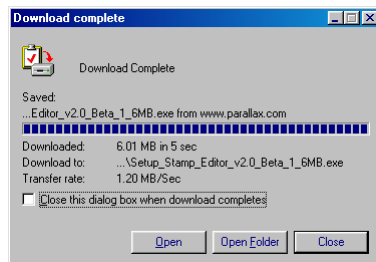

Figure 1-9
- ✓ When the download is complete, leave the window shown in Figure 1-9 open while you skip to the next section - Activity #2: Installing the Software.